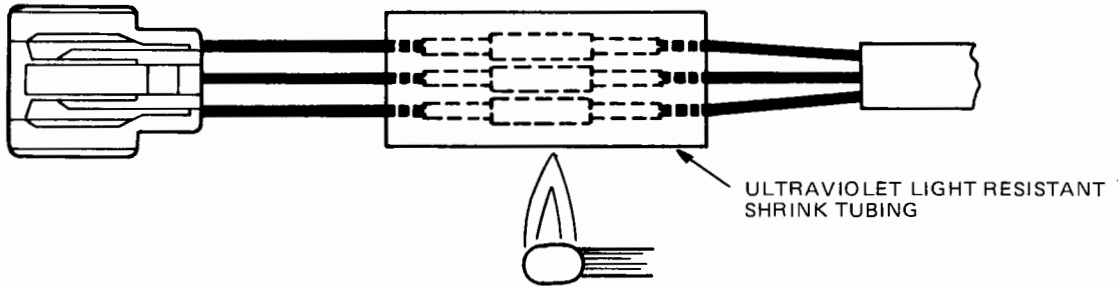

FIG. 6
7. Slide the Ultraviolet-Light Resistant Shrink Tubing over the splices as shown in Fig. 6. *NOTE: REQUIRED FOR OUTDOOR UNITS ONLY.*